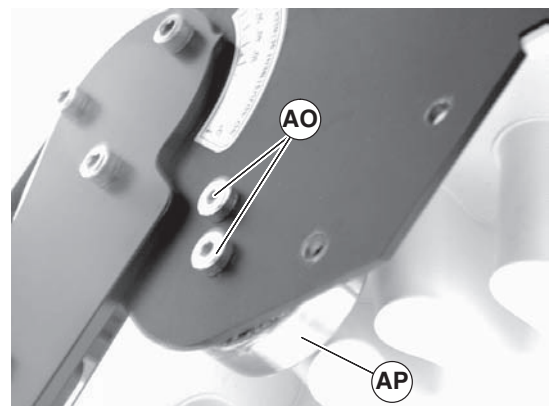

Figure 19
5. Remove screws (Figure 19, item AO) and remove roller bearing (AP).